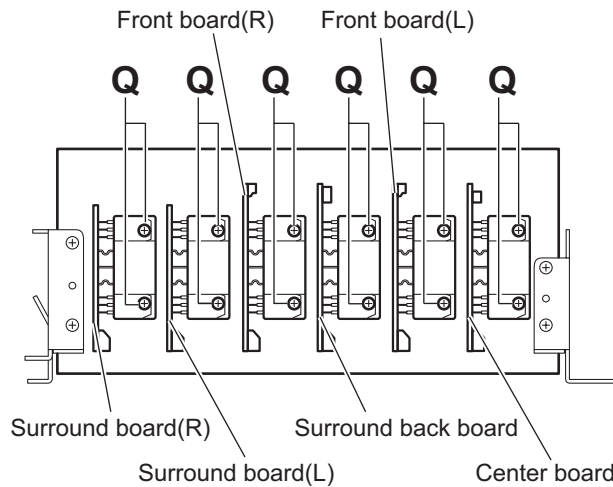

Fig.12
- (3) Remove the two screws **Q** attaching the center board. (See Fig.12)
- (4) Remove the two screws **Q** attaching the front board (L). (See Fig.12)
- (5) Remove the two screws **Q** attaching the surround back board. (See Fig.12)
- (6) Remove the two screws **Q** attaching the front board (R). (See Fig.12)
- (7) Remove the two screws **Q** attaching the surround board (L). (See Fig.12)
- (8) Remove the two screws **Q** attaching the surround board (R). (See Fig.12)